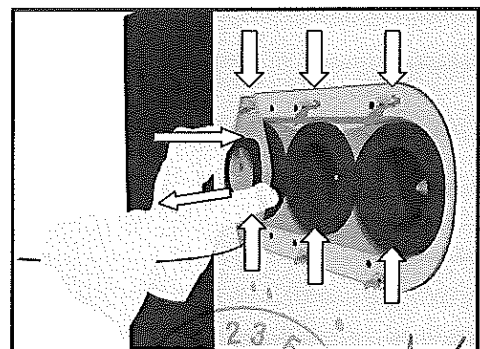

Figure 4.28: Air extraction
3) Apply the silicone grease supplied in the accessory kit (Syntheso Proba 270), on all the inner surface of the female bushings, paying special attention to not getting it on the busbar connection points. Then position the 6 screws (special head), to secure the plugs in the position indicated in Figure 4.28. Pay special attention to positioning the 2 long screws in the central phase.